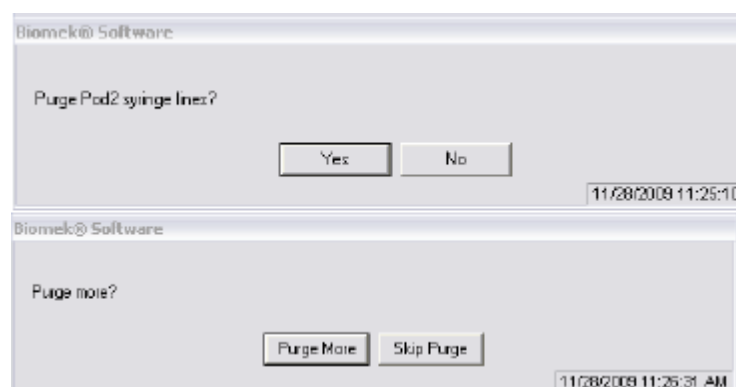

Figure 26 Prompts to purge Pod2 syringe lines.
- In the prompt that appears (Figure 26), click **Yes** to begin purging the Pod2 syringe lines. If bubbles are still present after purging, click **Purge More** in the next prompt (Figure 26). If no further purging is required, click **Skip Purge**.